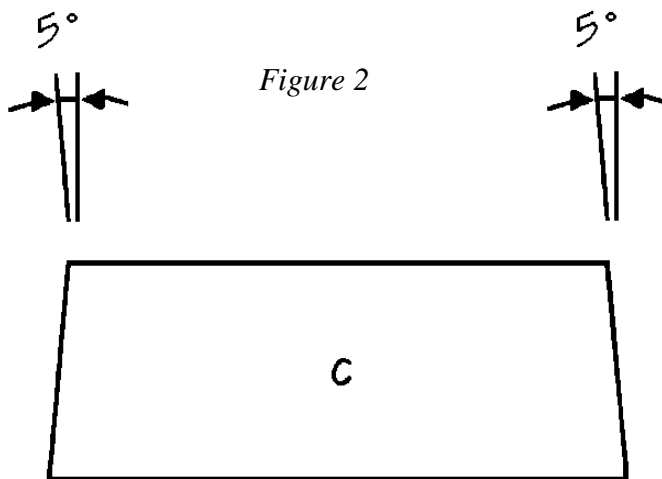

Figure 2
4. Cut two short top Supports (C) from 1 x 4 pine, each measuring 7-3/4 inches.
5. Miter each of the short top Supports (C) at opposite 5-degree angles, as shown in *Figure 2*.
6. Cut two Short Middle Supports (D) from 1 x 4 pine, each measuring 11-1/4 inches.
7. Miter the ends of each of the two Short Middle Supports (D) at opposing 5-degree angles, as shown in *Figure 2*.
8. Cut two Short Bottom Supports (E) from 1 x 4 pine, each measuring 13-1/2 inches.
9. Miter the ends of each of the two Short Bottom Supports (E) at opposing 5-degree angles, as shown in *Figure 2*.
1. Cut two Long Top Supports (F) from 1 x 4 pine, each measuring 9-1/4 inches.
2. Miter each of the Long Top Supports (F) at opposing 5-degree angles, as shown in *Figure 2*.
3. Cut two Long Middle Supports (G) from 1 x 4 pine, each measuring 11-1/4 inches.
4. Miter the ends of each of the two Long Middle Supports (G) at opposing 5-degree angles, as shown in *Figure 2*.
5. Cut two Long Bottom supports (H) from 1 x 4 pine, each measuring 15 inches.
6. Miter the ends of each of the two Long Bottom Supports (H) at opposing 5-degree angles, as shown in *Figure 2*.